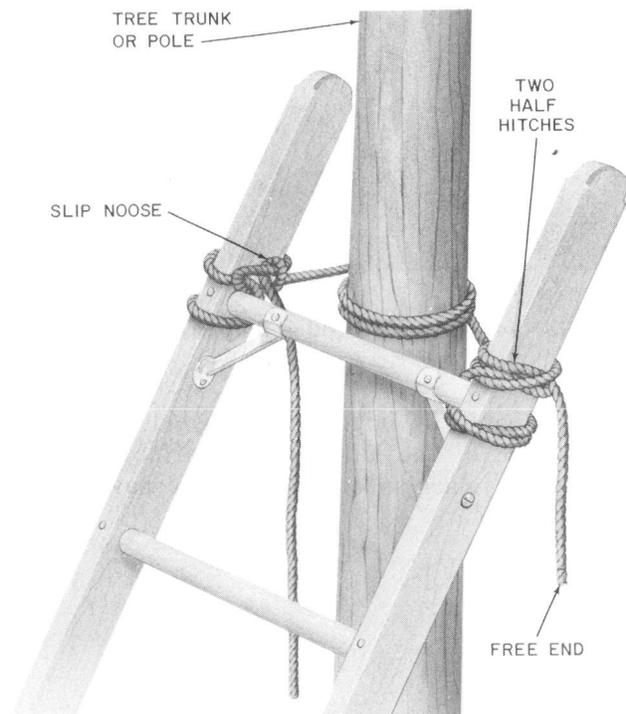

Fig. 36—Ladder Lashed to Tree or Pole
9.11 When placing a ladder against a tree, select the tree trunk or its larger limbs for support. When it is necessary to place a ladder so the top rung rests against a tree trunk or similar object, a handline may be thrown or placed with a wire-raising tool or tree pruner handle over a tree limb, tied to the top rung of the ladder, and used to assist in raising the ladder. After the ladder has been placed, tie the free end of the handline to one of the lower rungs, thus holding the ladder until a more secure lashing is made. The ladder shall be lashed securely at one or two points to prevent the ladder from twisting or sliding when the craft person's weight is put on one side. The lashing can be made in the following manner with a second rope (Fig. 36):